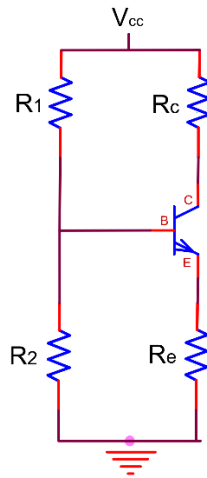

Figure 7.2
4. Construct and Figure 7.2 measure all the DC voltages. Use the values calculated in the prelab.